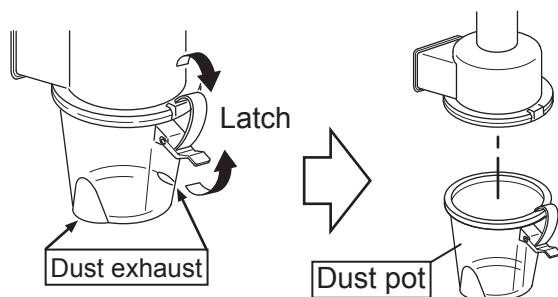

Figure 22. Unlatching Dust Pot
1. Unlatch and remove dust pot (Figure 22).